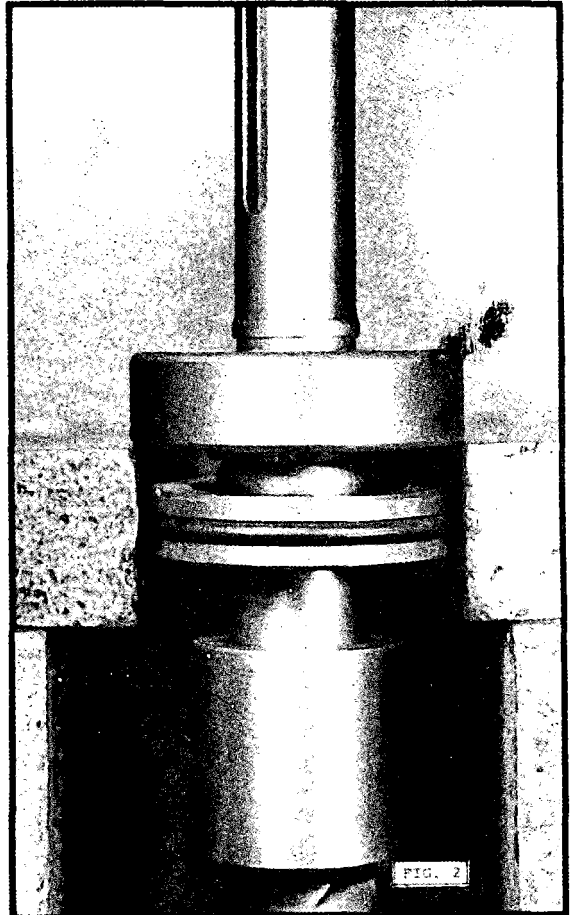

FIG. 2
2. Support the bearing (020) by its outer race, press off and discard – See Fig. 2.
4. Install snap ring (021) in slot closest to wear ring. Use standard external snap ring assembly pliers. (Fig. 2) Take care not to mark the wear ring with the nose of the pliers.